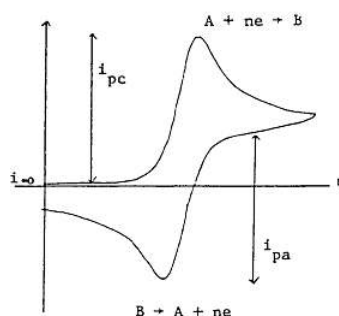

Figure 1.4: CV Waveform of Reaction Lab 1.3
After the direction of the potential sweep is reversed, a second current peak is observed corresponding to oxidation of the product B. When Reaction Lab 1.3 is reversible, implying that B is stable, the height of this peak is equal to that observed on reduction, but with the current flowing in the opposite direction. The method of estimating peak currents is illustrated in Figure 1.4, where i_{pc} is the peak potential in the cathodic sweep.
□ **Figure 1.6:** Variation of measured current for peak I from Figure 1.4 vs. potential scan rate, v .